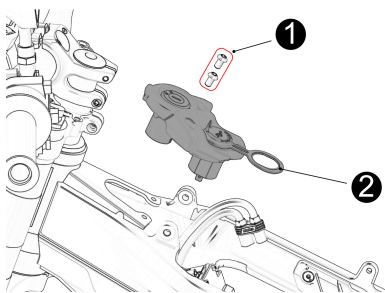

Fig 42
11.13 Dismount USB and electric control lock combination (see Fig 42)